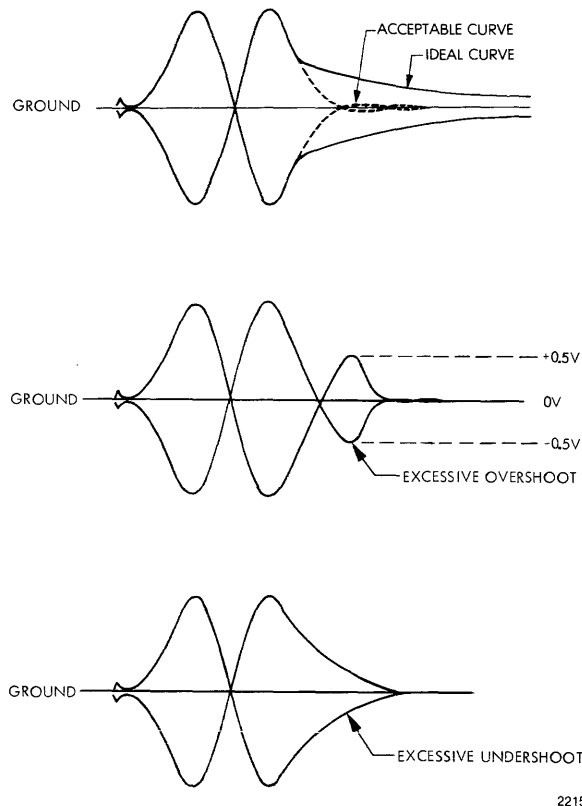

Figure 6-12. X + 0 Waveforms 000-001 Repetitive Track Seek
- (1) Observe the waveform at TP11 (on the Logic PCBA) and TP21 (on the Servo PCBA); refer to Figure 6-12.
- (2) If overshoot exceeds  $\pm 0.5v$ , or excessive undershoot is evident, perform Overshoot Adjustment in Paragraph 6.9.7.
- (1) Select Chopped mode on the oscilloscope.
- (2) Observe waveforms at TP21 (Figure 6-12) and TP15 (Figure 6-7) while performing one-track seek.
- (3) While adjusting R66 for minimum overshoot (Figure 6-12), ensure that the positive peak of the waveform at TP15 is  $> +1.5\text{v}$  and that the negative excursion is more negative than  $-1.5\text{v}$  (Figure 6-7).